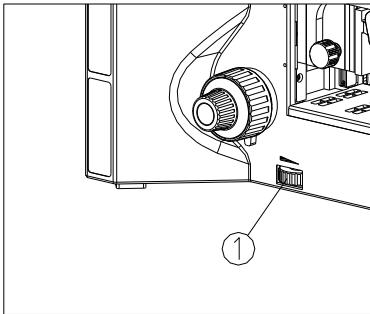

Fig.17
(1) Put through the power and turn on the main power switch to “—” (ON).
(2) Adjust the light adjustment knob ① until the illumination is comfortable for observation. Rotate the light adjustment knob ① clockwise to raise the brightness. Rotate the light adjustment knob ① counterclockwise to lower the brightness. (See Fig.17)